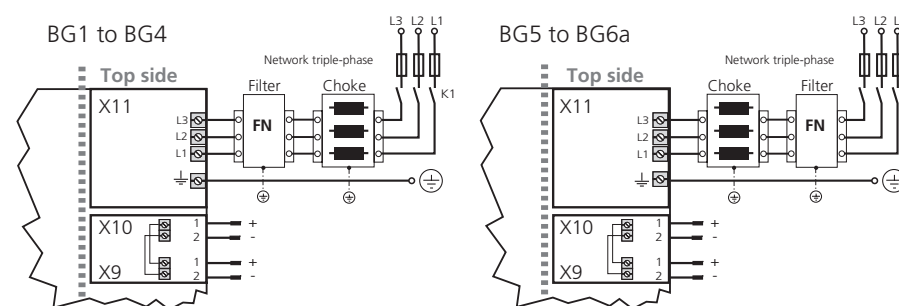
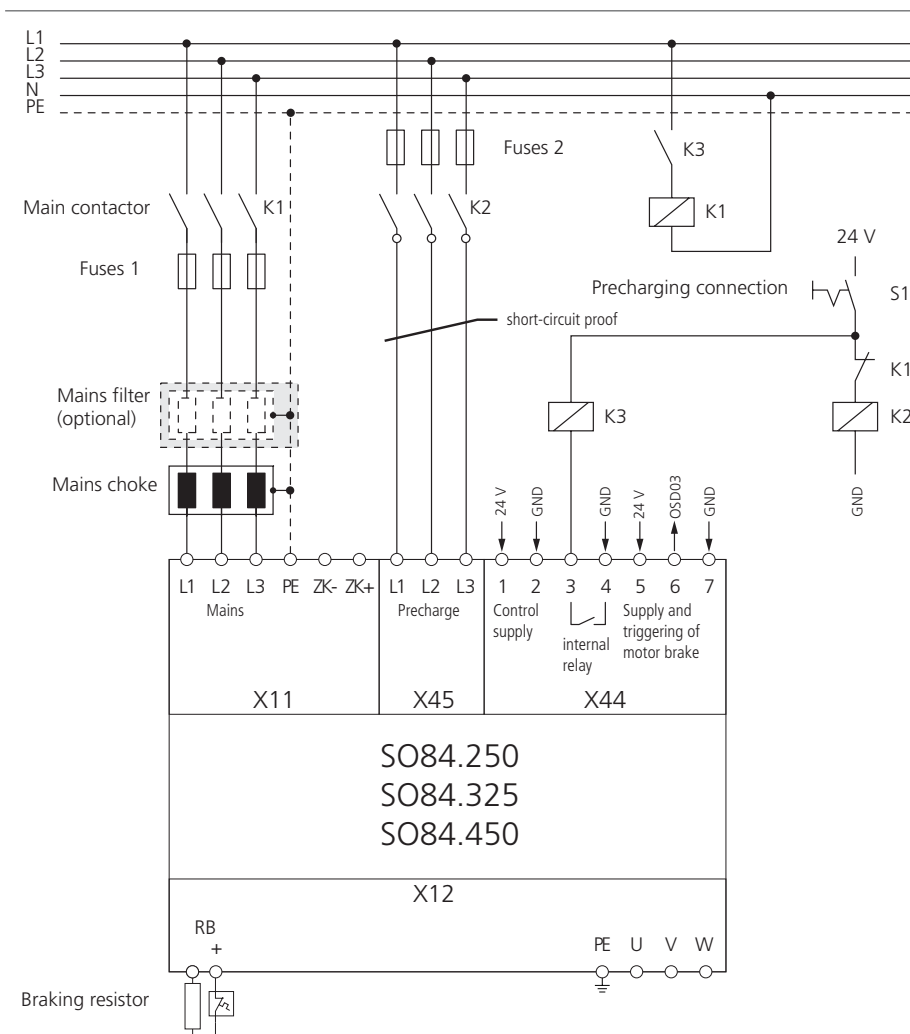

Fig. 3.13 Connection of mains supply 3 x 230/400/460/480 V for BG1 to BG6a
Fig. 3.14 Connection of precharge, control and mains supply 3 x 230/400/460/480 V for BG7 (from serial number 1028xxxx)
**NOTE:** The connection of control supply for BG7 can be found in Fig. 3.14 on page 29.
ATTENTION! For devices of sizes BG5 to BG7 a mains choke is mandatory. Due to the different precharging technology in these devices you must make sure that the mains choke is installed between drive controller and mains filter (see Fig. 3.13 and Fig. 3.14).
Wire the precharge circuitry as shown in fig. 3.14 as per standard with short-circuit proof cables. The connected loads of the internal relay for terminals X44/3, 4 are  $U_{max} = 30$  V DC,  $I_{max} = 6$  A. You should therefore use a contactor relay K3.